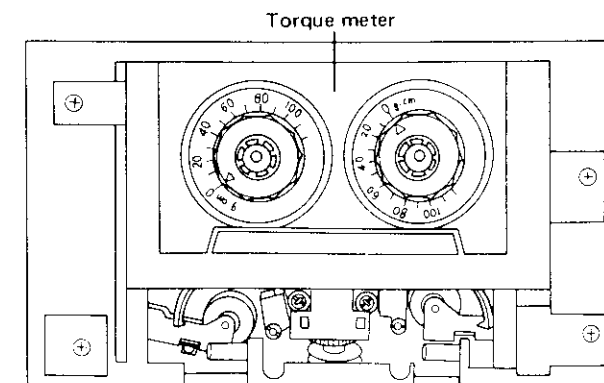

Fig. 4-6 Take-up torque adjustment
5. Check that the take-up torque is within 35~55g-cm (Fig. 4-6).